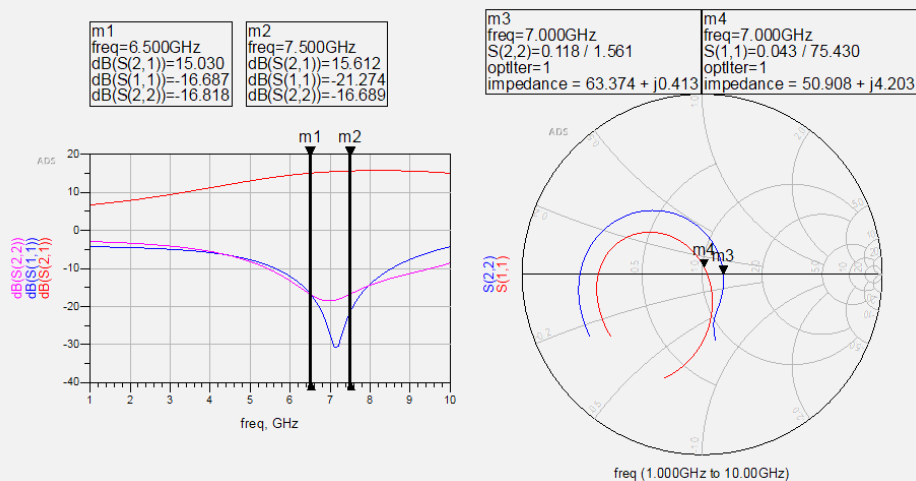

Figure 38. Rectangular and Smith Chart plots of S(1,1), S(2,1), and S(2,2)
- After the optimization is complete, switch to the Data Display (**a2_match_opt**). On the rectangular plot, move the line markers to **6.5 GHz** and **7.5 GHz**. On the Smith chart, set the markers to **7 GHz**. Notice that all the goals were met, meaning $S_{11} < -15$ dB, $S_{22} < -15$ dB and $S_{21} > 15$ dB. The plots are shown in Figure 38.